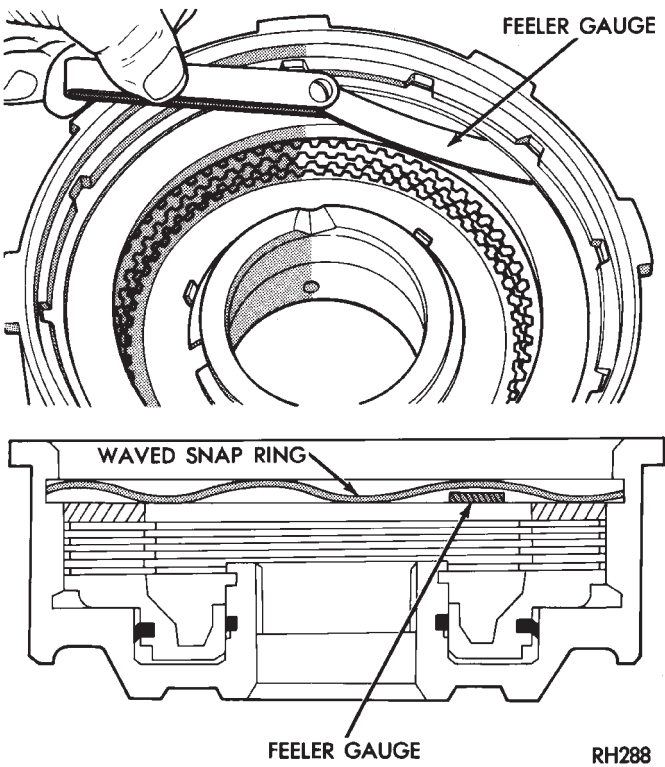

Fig. 65 Measuring Front Clutch Pack Clearance
- (10) Install reaction plate and waved snap ring.
- (11) Check clutch pack clearance with feeler gauge as follows (Fig. 65):